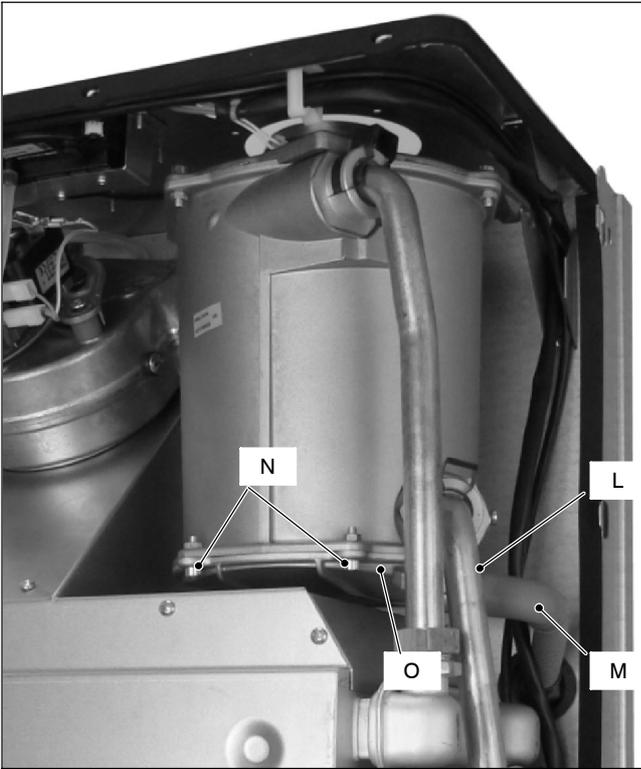
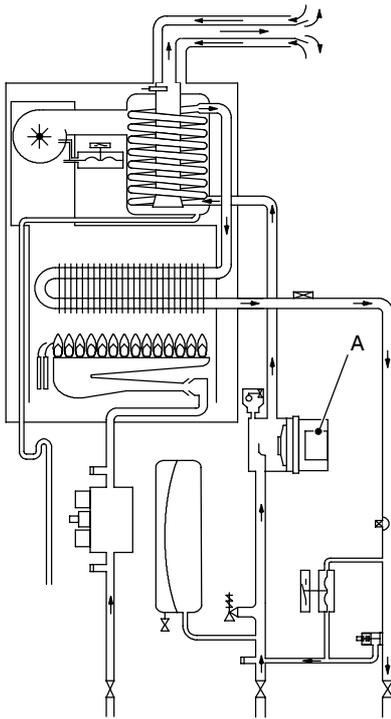

Fig. 3
Fig. 1
- 1 Using pliers, remove the spring *L* moving it to wards right and disconnect the rubber pipe *M* (Fig. 3).
- 2 Unscrewing the screws *N* (Fig. 3).
- 3 Remove the condensing heat exchange lid *O* (Fig. 3) moving towards the front of the boiler.
The pump A in Fig. 1 and Fig. 3 has the function of making the water in the main circuit circulate through the main heat exchanger, the condensing heat exchanger and therefore through the c.h. system (during the c.h. function) or through the secondary heat exchanger (during the d.h.w. function).